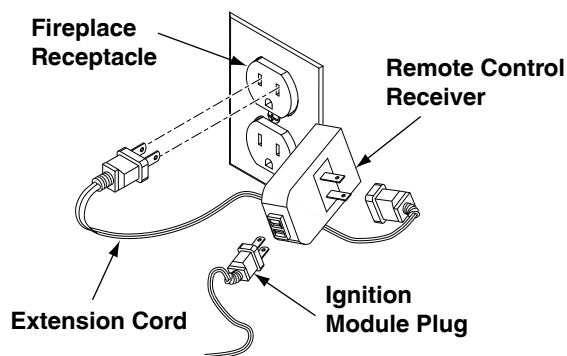

Figure 45 - Connecting WRC Remote Control Electronic
2. The WRC model receiver does not require a battery. The receiver can be installed by first plugging the short extension cord into the fireplace receptacle. Then plug the receiver unit into the extension cord. Finally plug the ignition module plug into the receiver unit (see **Figure 45**).